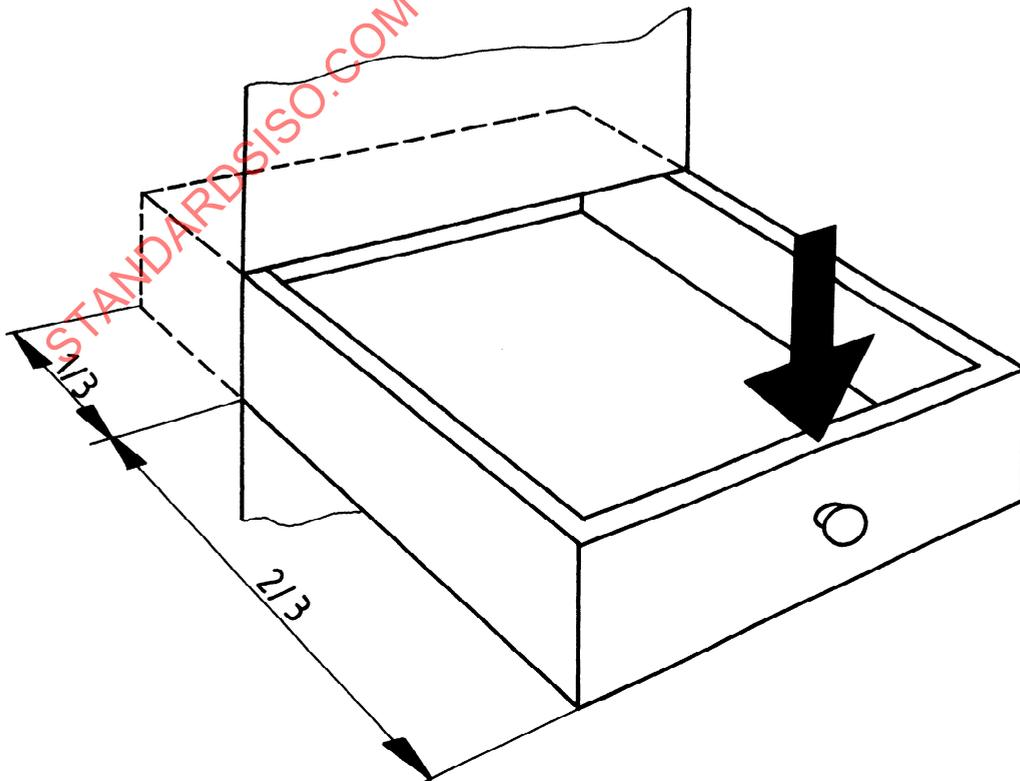

Figure 2 — Application of vertical force on the drawer
- on drawers: over the centre of the front of the drawer (see figure 2);